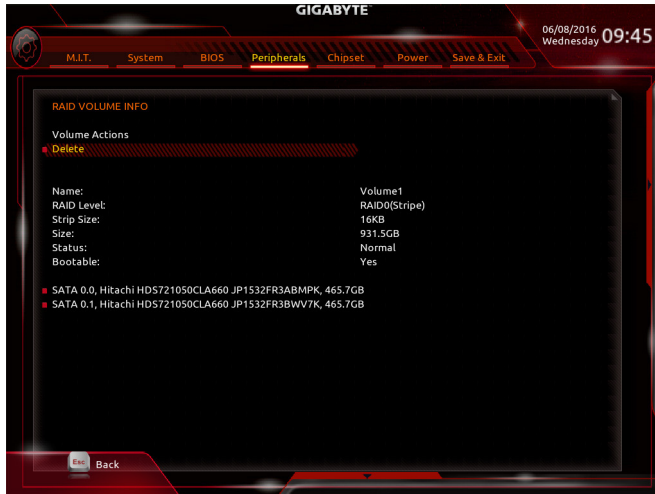

Figure 4
After completing, you'll be brought back to the **Intel(R) Rapid Storage Technology** screen. Under **RAID Volumes** you can see the new RAID volume. To see more detailed information, press <Enter> on the volume to check for information on RAID level, stripe block size, and array capacity, etc. (Figure 4).